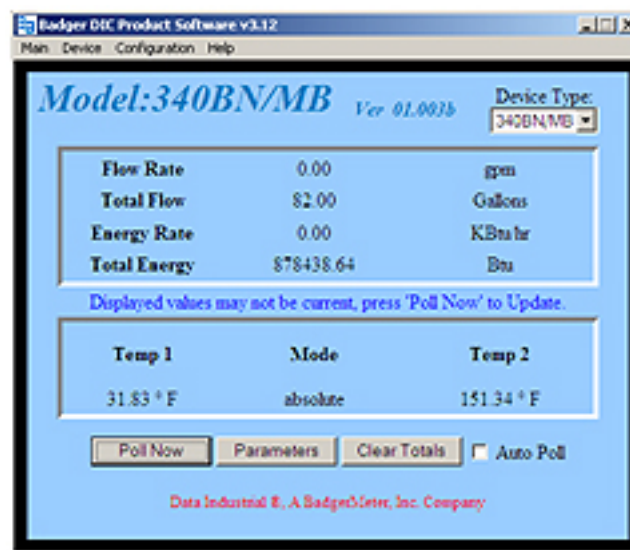

Figure 20: Screen change
- b. Select this new port created by the adapter and the screen should change as shown in Figure 20. The dashes ("----") are replaced with values, confirming normal communications.